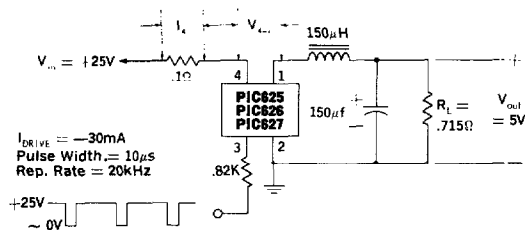

Figure 1. PIC625, 626, 627 Switching Speed Circuit
2. The efficiency is a measure of internal power losses and is equal to Output Power divided by Input Power. The switching speed circuit of Figure 1, in which the efficiency is measured, is representative of typical operating conditions for the PIC625 series switching regulators.